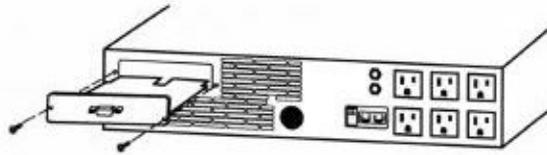

Figure 19 Removing the Single-Port Module
2. Remove the single-port module on the UPS rear panel. Retain the screws (see Figure 19).